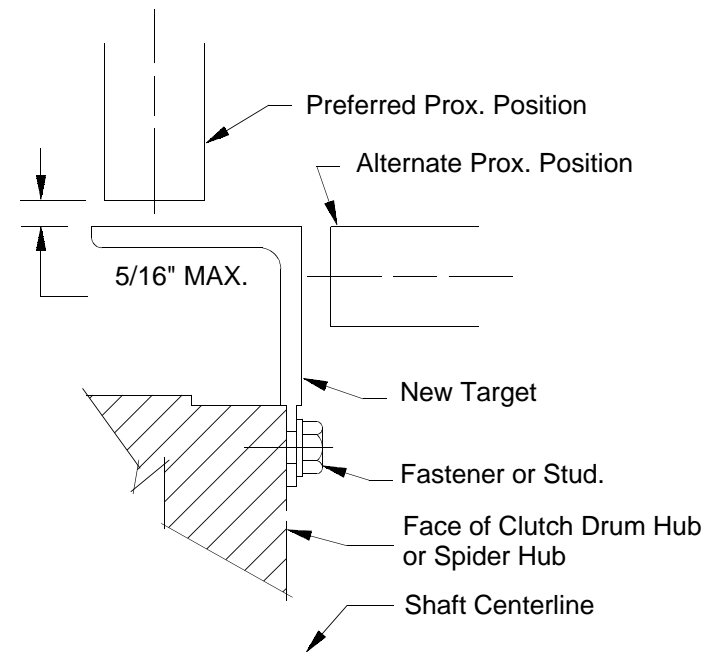
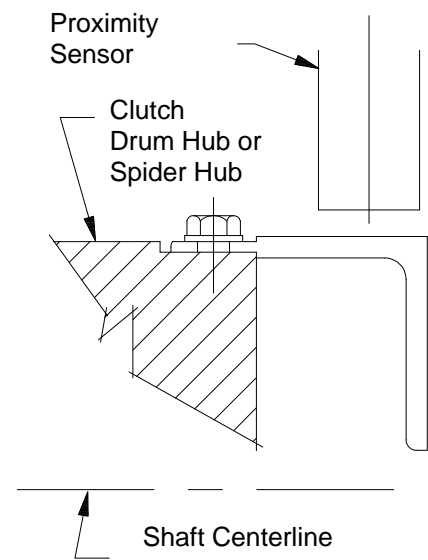

Figure 1
Figure 2
- 3.3.4 Orientation of the target is dependent upon ease of drilling and tapping of the hubs to accept the fasteners. Recommended position is similar to that shown in Figure 1, to allow for ease of clutch maintenance without disturbing the position of the proximity sensors. Target orientation shown in Figure 2 allows for radial fastener installation in the event that axial clearance is limited. Ensure that the target location will not interfere with guarding or adjoining bearing housings., etc. that may damage the target during operation.
- 3.4.5 Sensors must be located with a maximum gap of 5/16 of an inch (0.312") from the sensor targets. See Figures 1 and 2.